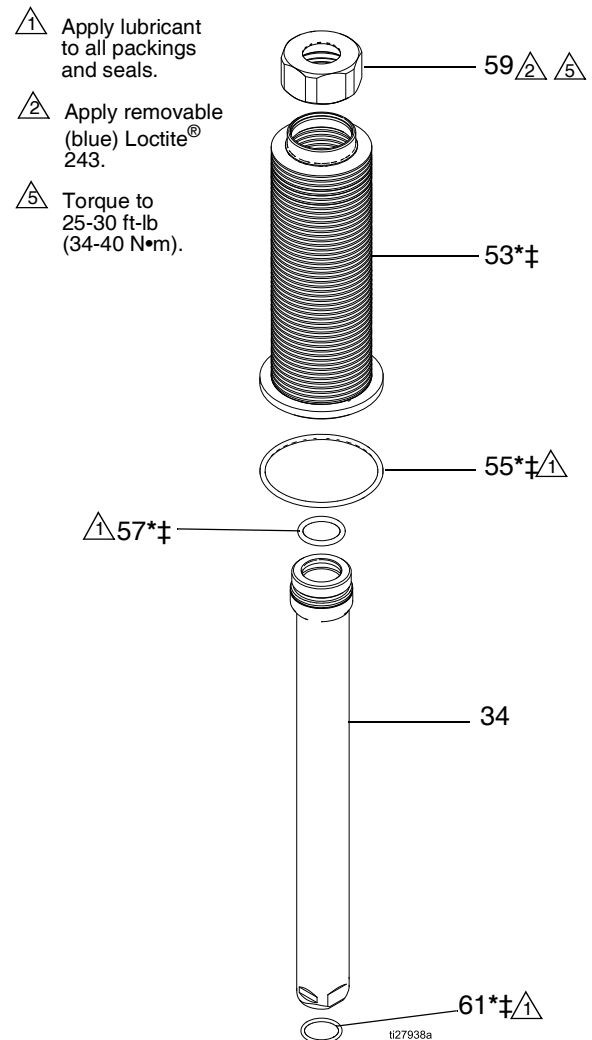

FIG. 4. Disassemble or Assemble the Bellows
- Remove the bellows o-ring (55).
- Remove the bellows assembly from the bellows chamber (45).
NOTE: The bellows assembly includes the bellows nut (59), the bellows (53), o-rings (57 and 61), and the bellows sleeve (34). To disassemble, see instructions on page 8 and FIG. 4 on page 9.
- Remove the four capscrews (40) from around the base of the bellows chamber (45). Lift the bellows chamber straight up off the fluid outlet housing (16). Be careful not to damage the piston rod (17).
See FIG. 4, page 9.
7. Remove the bellows o-ring (55). See FIG. 4, page 9.
8. Remove the bellows assembly from the bellows chamber (45). Remove o-ring (57).
9. If the bellows has failed, also remove the breather valve (26) from the top plate. Clean the fluid path of any clogged paint.